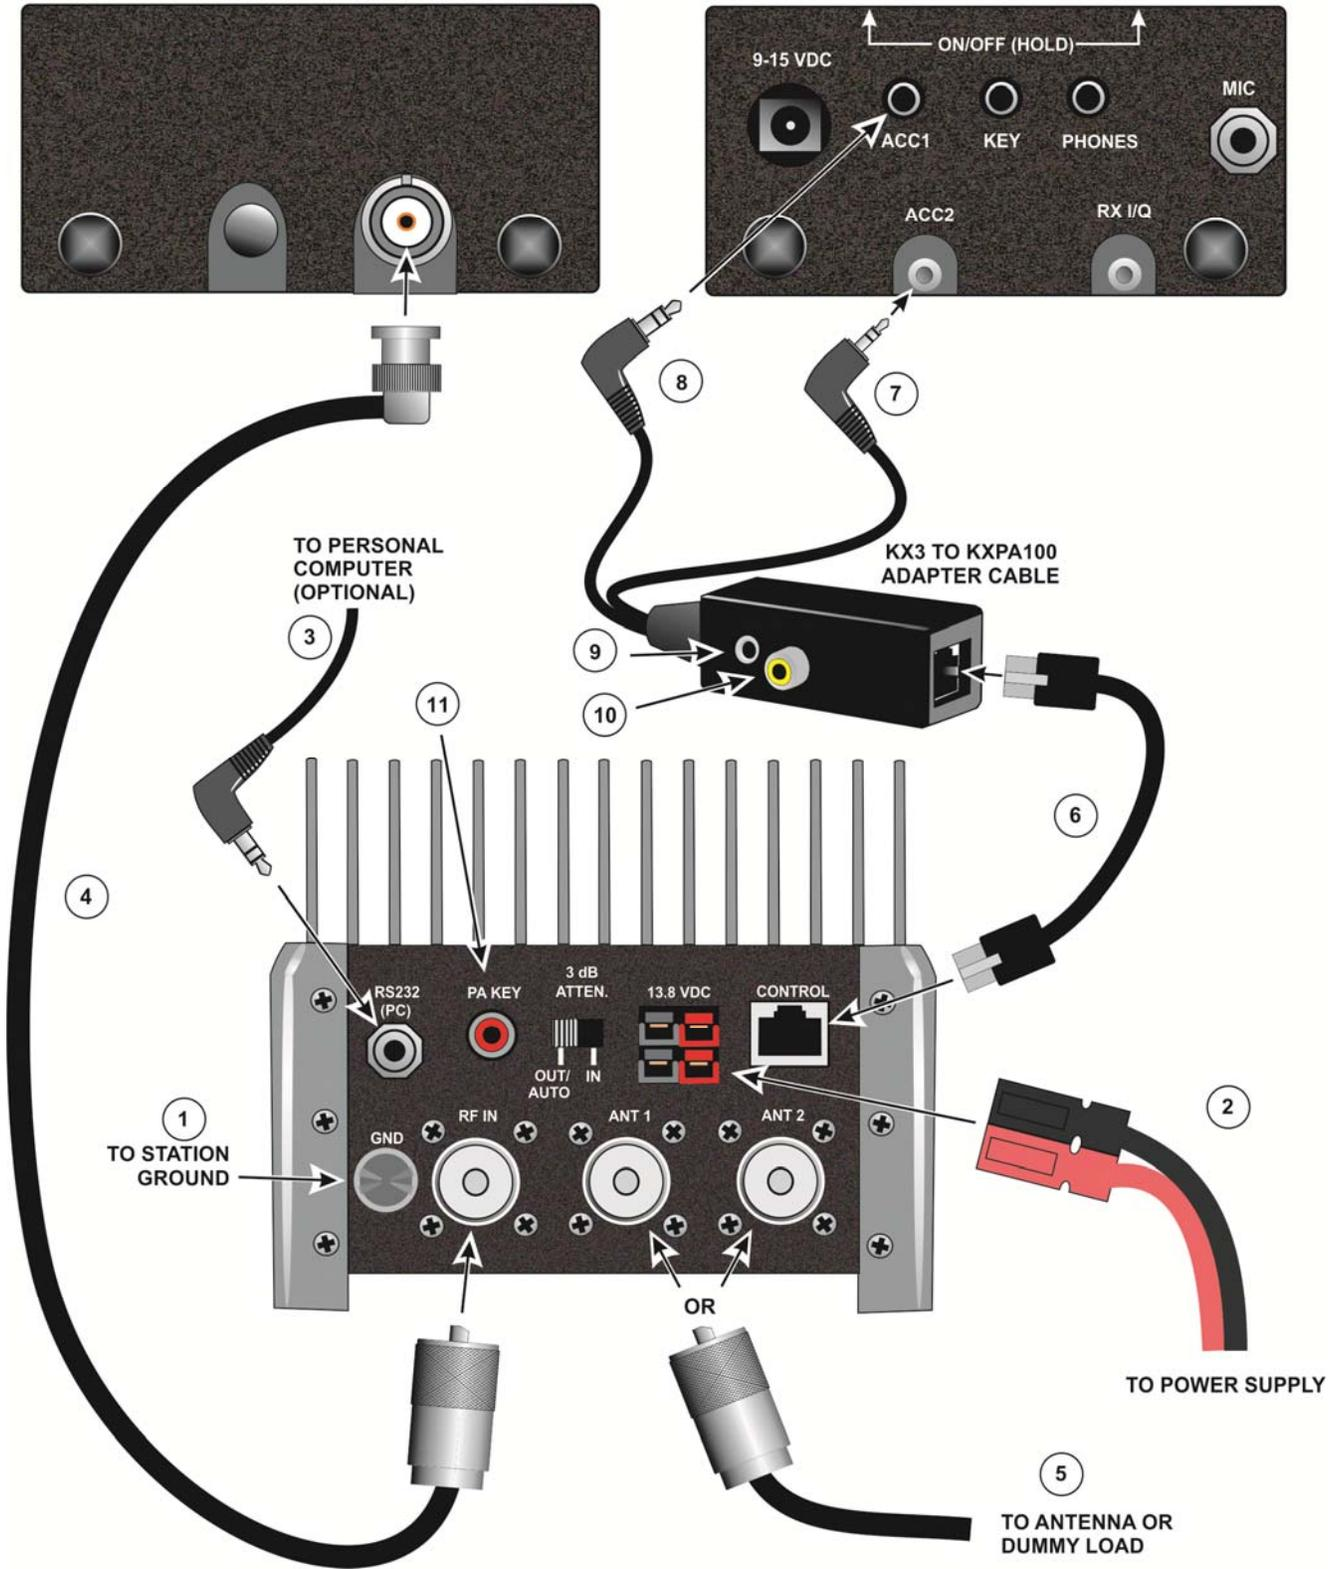
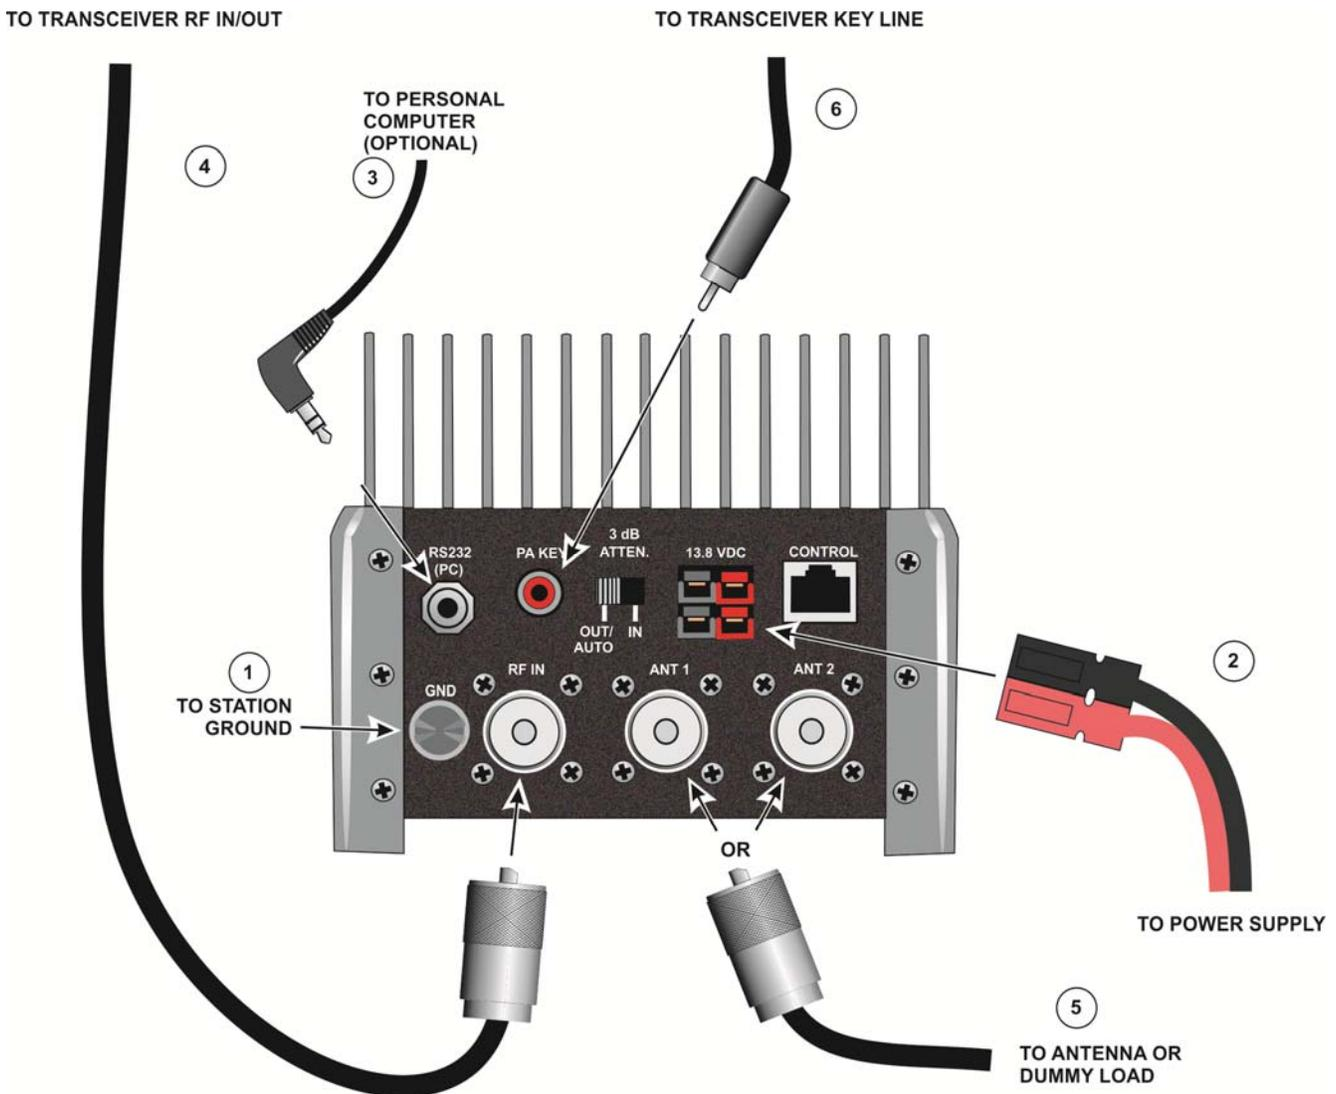

Figure 3. Connecting the Amplifier to a KX3 Using the Optional Adapter Cable.
Figure 4. KXPA100 Connections to Any Transceiver for Basic Operation
Figure 3 shows the connections required. See the following text for details of each cable and its function.
An amplifier with the optional KXAT100 antenna tuner is shown. If your amplifier does not have the antenna tuner option, you will have only one ANT connector. Otherwise there is no difference in the connections. These circled numbers in the following notes refer to the corresponding numbers on Figure 3.
Notes Continued Following Figure 3.
Figure 4 shows the connections to the amplifier when it is used with transceivers other than the KX3, or with a KX3 without the optional KX3-KXPA100 Adapter Cable.
- **Connections:** Your KX3 must be connected to the KXPA100 amplifier with the KX3 to KXPA100 Adapter Cable as shown in Figure 3 on page 12. Refer to *Operation with any Transceiver* on page 19 if you are using a transceiver other than the KX3, or a KX3 without the adapter cable.
**⚠ Connections:** The following instructions assume that your transceiver is connected to the KXPA100 amplifier as shown in Figure 4 on page 14. If you are using a KX3 with the KX3 to KXPA100 Adapter Cable connected as shown in Figure 3 on page 12, refer to *Operation with the KX3 using the KX3 to KXPA100 Adapter Cable* on page 19.